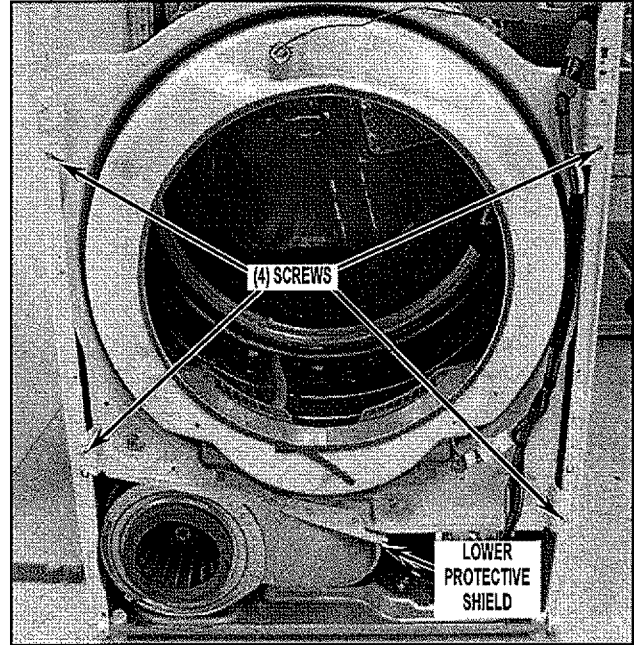

FIGURE 13
15. Remove bulkhead assembly by first removing four (4) screws securing the bulkhead assembly to cabinet. Slightly lift up on bulkhead assembly and at the same time pulling away from drum working rollers off drum. See Figure 13.